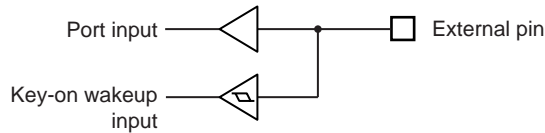

Figure 15-2 Key-on Wakeup Input and Port Input
- Note 3: The input circuit of Key-on Wakeup input and Port input is separated, so each input voltage threshold value is different. Therefore, a value comes from port input before STOP mode start may be different from a value which is detected by Key-on Wakeup input (Figure 15-2).